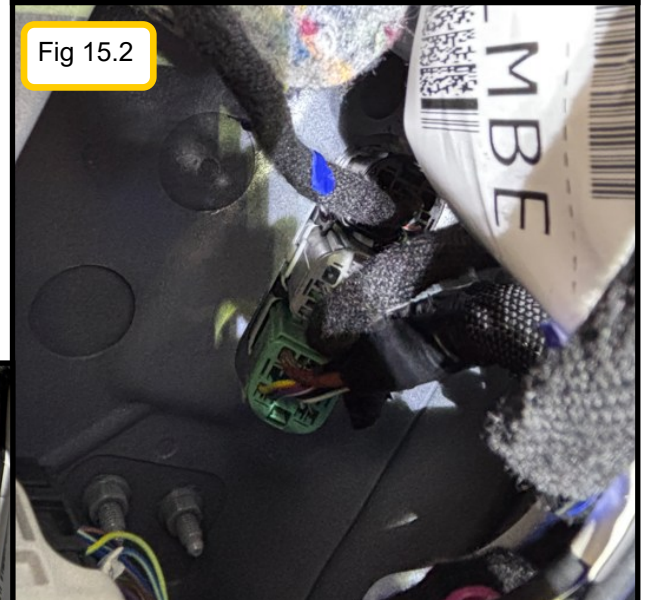

Fig 15.2
3. Locate the fabric tape wrapped harness coming from the black connector that passes through the vehicle wall into the door. (fig 15.2)